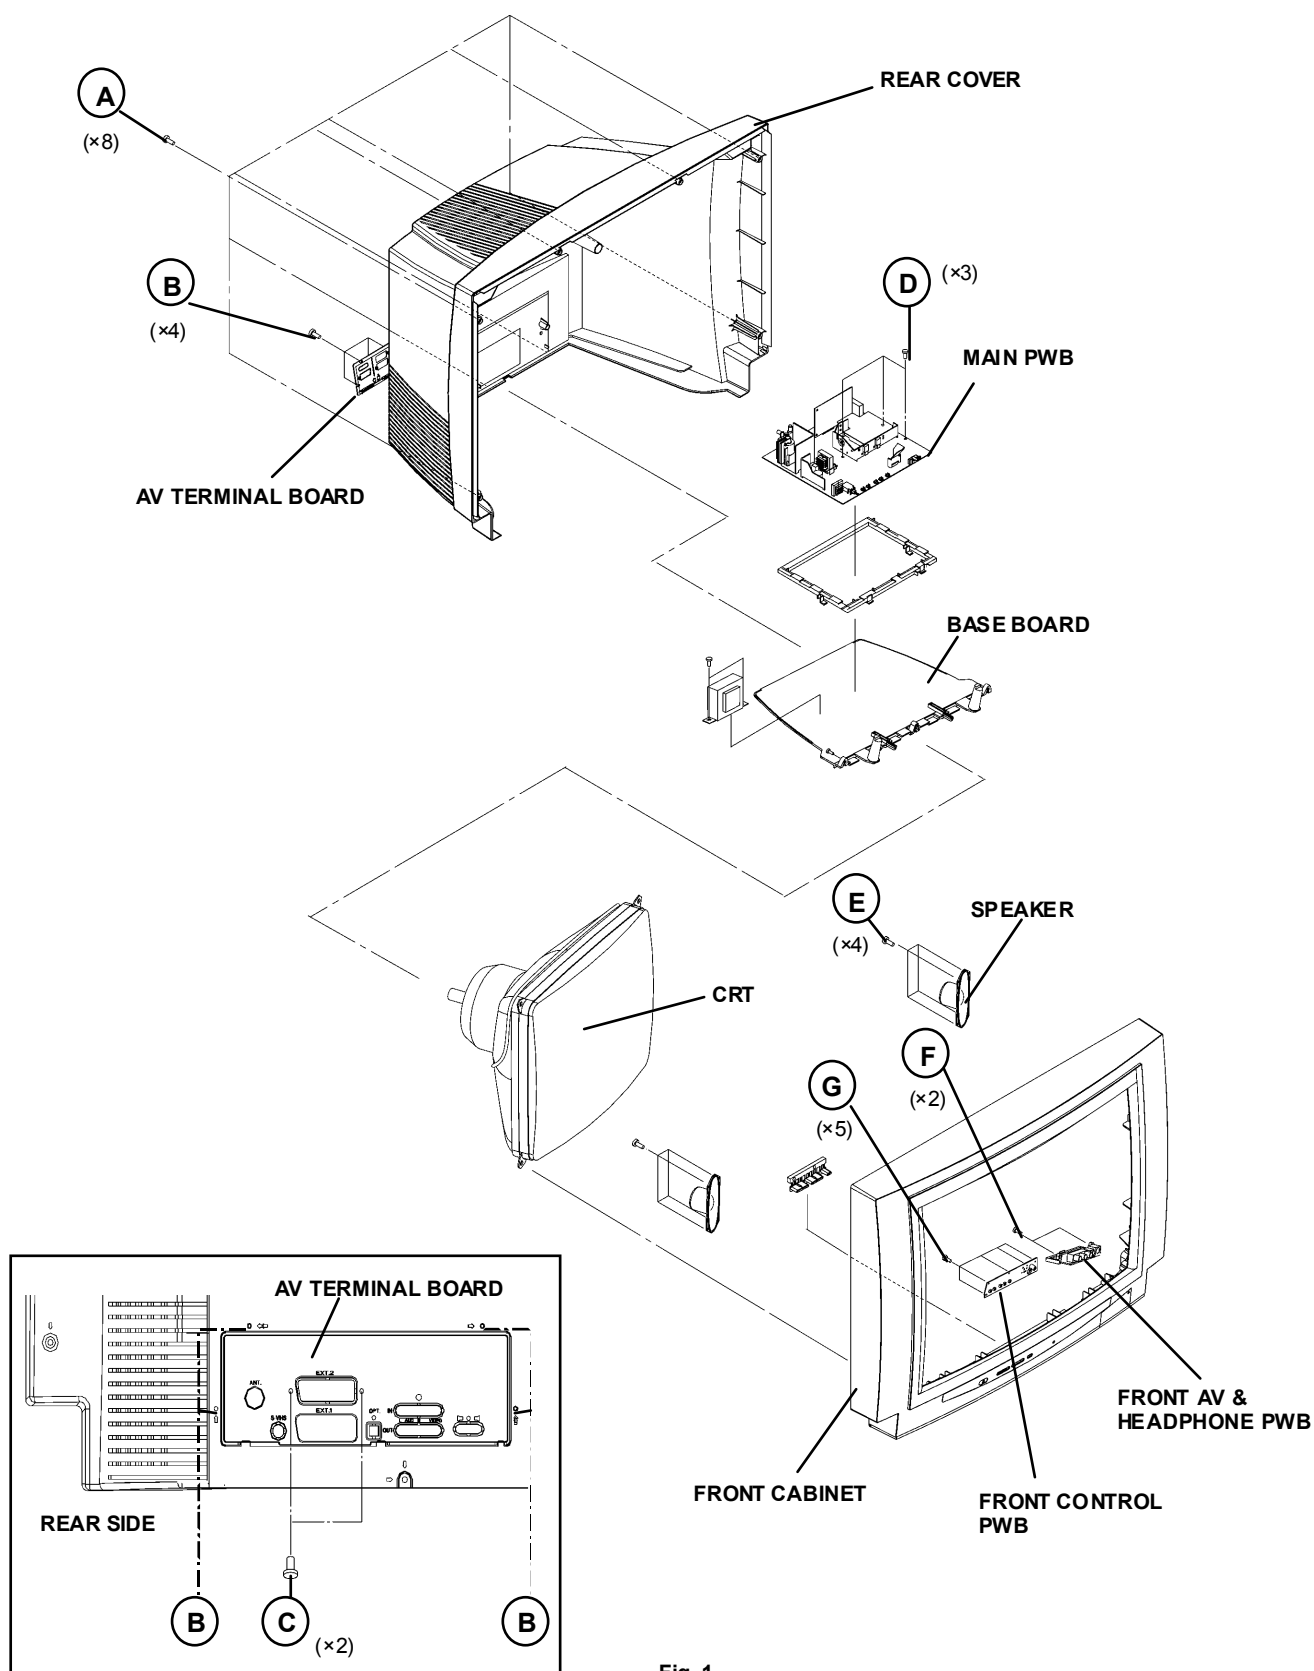

Fig. 1
1. Remove the 3 screws marked **D** as shown in the Fig.1.
1. Remove the 4 screws marked **E**, and remove speaker as shown in Fig. 1.